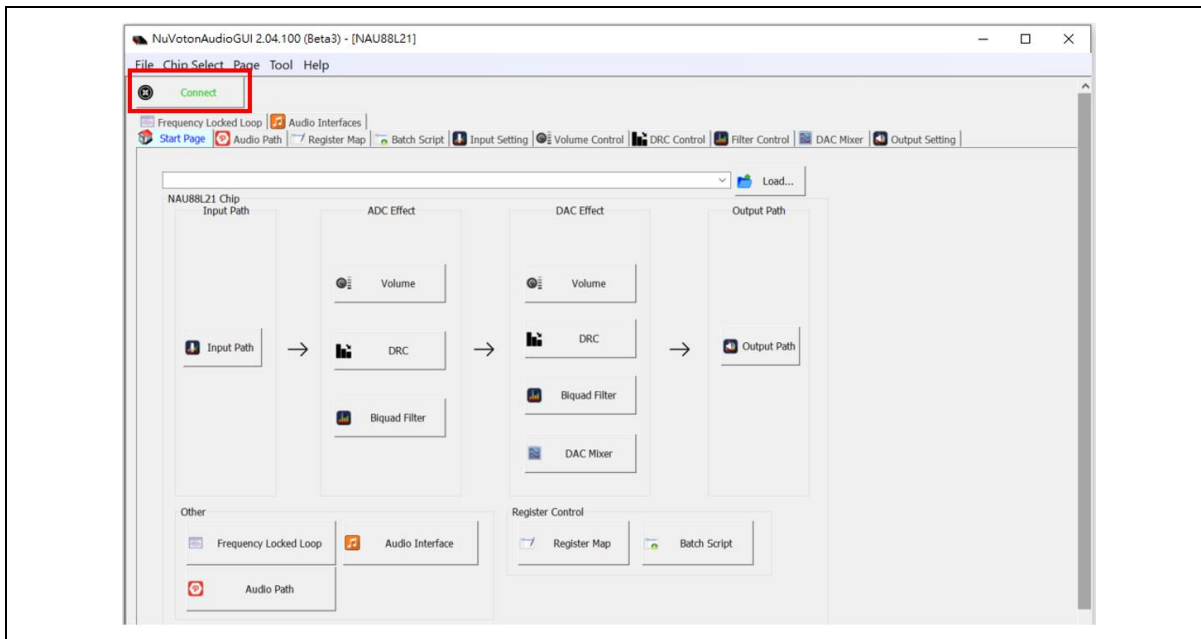

Figure 3-6 NuvotonAudioGUI Operating Step (3)
3. NuvotonAudioGUI will automatically read connection status. If the hardware and software are properly configured, a green [Connect] will appear on the upper left corner of the NuvotonAudioGUI window, as shown in Figure 3-6. Then users can issue I²C commands through NuvotonAudioGUI to control NL-NAU88L21.